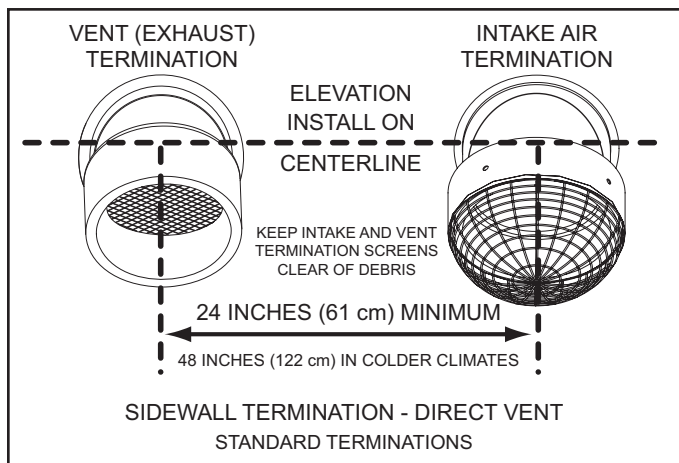

Figure 26
- If installing both an intake air and vent termination in a Direct Vent configuration through a sidewall there must be a minimum of 24 inches (61 cm) separation, measured on vertical center line, between the intake air and vent terminations, see Figure 26.
- If installing both intake air and vent terminations in a Direct Vent configuration through a sidewall the intake air and vent terminations must be installed at the same elevation measured on horizontal center line - see Figure 26.
However, the distance between the closest vent and intake air terminations must be a minimum of 24 inches (61 cm). In colder climates this separation should be increased to at least 48 inches (122 cm). See Figure 26.